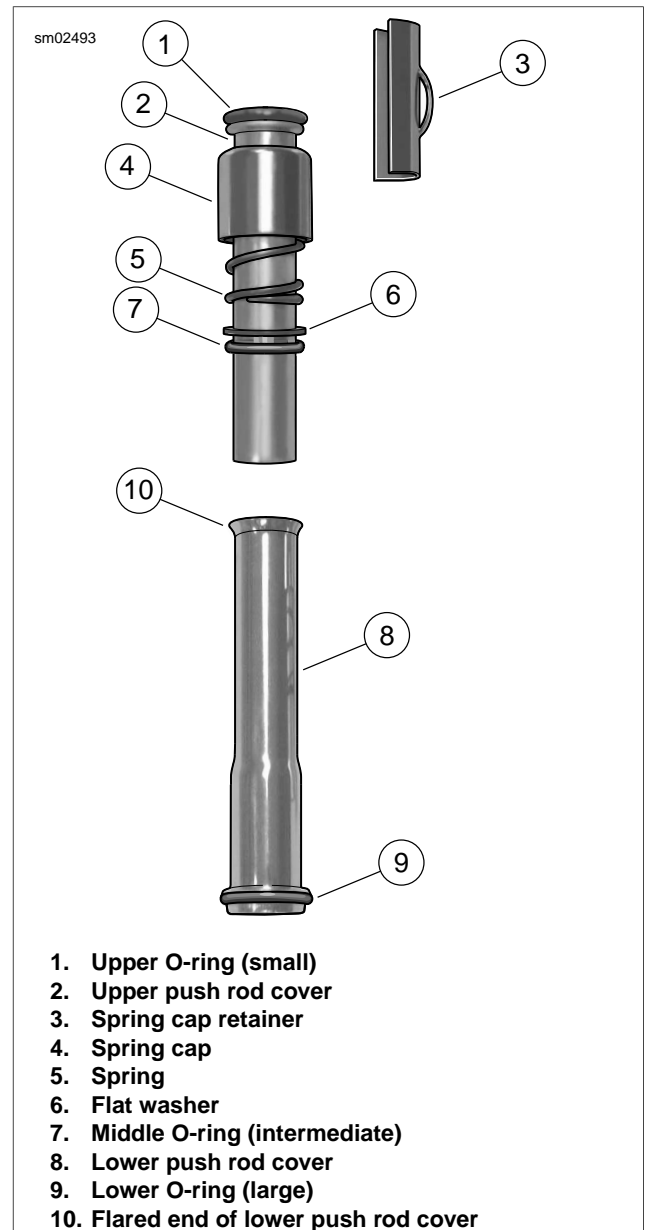

Figure 3-84. Assembled Push Rod Cover
1. See Figure 3-84. Obtain three **new** o-rings (1, 7 and 9). Apply a very thin film of clean H-D 20W50 engine oil to o-rings before installation.
2. Install **new** small o-ring (1) on seat at the top of the upper push rod cover (2).
3. Slide the spring cap (4), spring (5), flat washer (6) and **new** intermediate size o-ring (7) onto the body of the upper push rod cover. Move parts up body until spring cap (4) contacts upper o-ring seat.
4. Fit the straight end of the upper push rod cover into the flared end of the lower push rod cover (8).
5. Install **new** large o-ring (9) on seat at bottom of lower push rod cover.